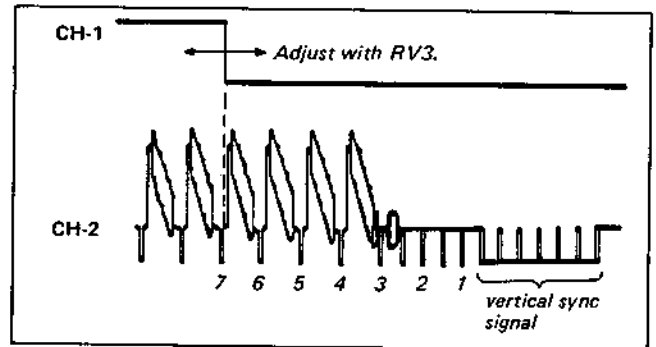

Fig. 4-3-6. Record-servo lock phase adjustment
- (3) Adjust RV3 on the AS-3 board so that the phases of the falling section of the CH-1 waveform and the vertical sync signal of the CH-2 video signal are $7H \pm 2H$. (See Fig. 4-3-6.)